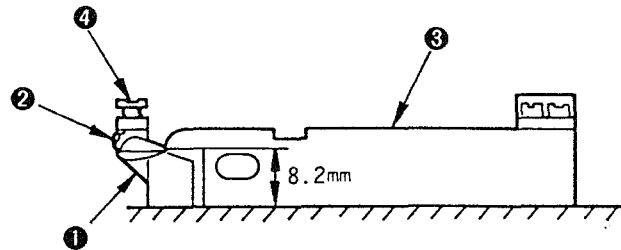
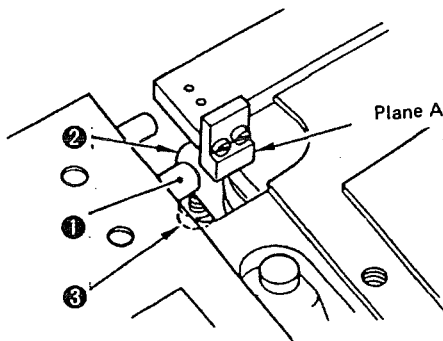
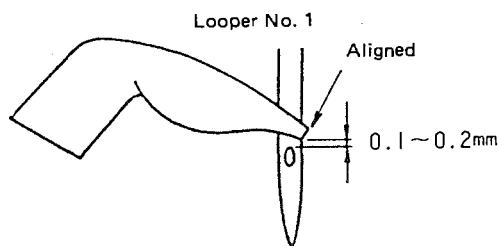

Fig. 8
Fig. 9
Fig. 11
<p>1. Adjusting the inclination of the loopers Use a timing gauge for this adjustment. The loopers No. 1 and No. 2 can be adjusted following the same adjusting procedure. Fit looper ② first in looper mounting base ① shown in Fig. 8, and temporarily tighten screw ④. Then, place timing gauge ③ on a flat board as illustrated in Fig. 8, and firmly tighten screw ④.</p> <p>2. Adjusting the looper No. 1</p> <p>① Position of the looper with respect to the direction of rotation Fit looper mounting base ② in looper shaft ①, and set the timing gauge on the machine bed as illustrated in Fig. 9. Then press the top end of the looper against plane A of the timing gauge when the looper is in its rear end, and temporarily tighten screw ③.</p> <p>② Adjusting the clearance between the needle and the looper When the looper travels forward until it is positioned as illustrated in Fig. 11, adjust the clearance between the needle and the looper to 0.05 to 0.1 mm. Then securely tighten the screw in the looper mounting base.</p> <p>③ Adjusting the looper when it scoops the thread Loosen two screws ① shown in Fig. 13. If the distance between the needle eyelet and the looper is too large, loosen the screw No. 2 and tighten the screw No. 1. On the other hand, if the distance between the needle eyelet and the looper is too small, loosen the screw No. 1 and tighten the screw No. 2. After the looper is correctly positioned, firmly tighten the two screws. Do not forget to tighten screws ①.</p> <div data-bbox="348 1283 1032 1522">  <p style="text-align: center;">Fig. 13</p> </div> <p>④ Adjusting the position where the needle drops behind the looper Adjust the position where the needle drops behind the looper simultaneously with the adjustment of the position of the looper at the time of scooping the thread.</p>	<p>1. If the inclination of the looper is not adjusted with accuracy, the thread may fail to come off the looper, resulting in stitch skipping or poorly tensed stitches.</p> <p>2. Be sure to use a timing gauge when adjusting the position of the looper with respect to the direction of rotation. If not, the position of the looper when scooping the thread cannot be adjusted with ease in the next step of adjustment.</p> <p>3. Stitch skipping may result. Minimize the clearance between the needle and the looper when using light-weight materials or elastic materials as long as the looper does not come in contact with the needle.</p> <p>* If the blade point of the looper No. 1 fails to scoop the loop of thread:</p> <div data-bbox="1197 1050 1495 1165">  </div> <p>* If the needle fails to drop behind the looper No. 1:</p> <div data-bbox="1197 1375 1495 1522">  </div>